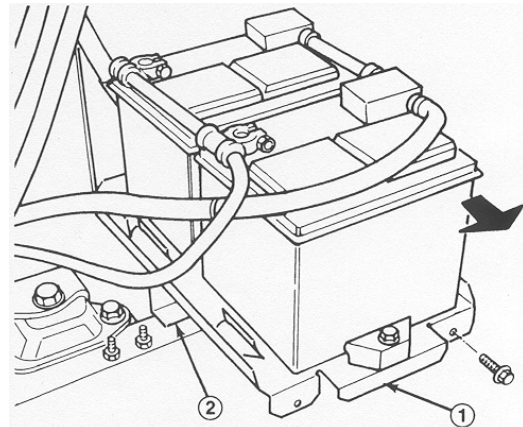

Figure 2
4. Remove the (2) flangehead screws retaining the battery tray to the battery base (Fig. 2). Slide the battery tray out to the side. This gives you more space to work on the hydraulic system.